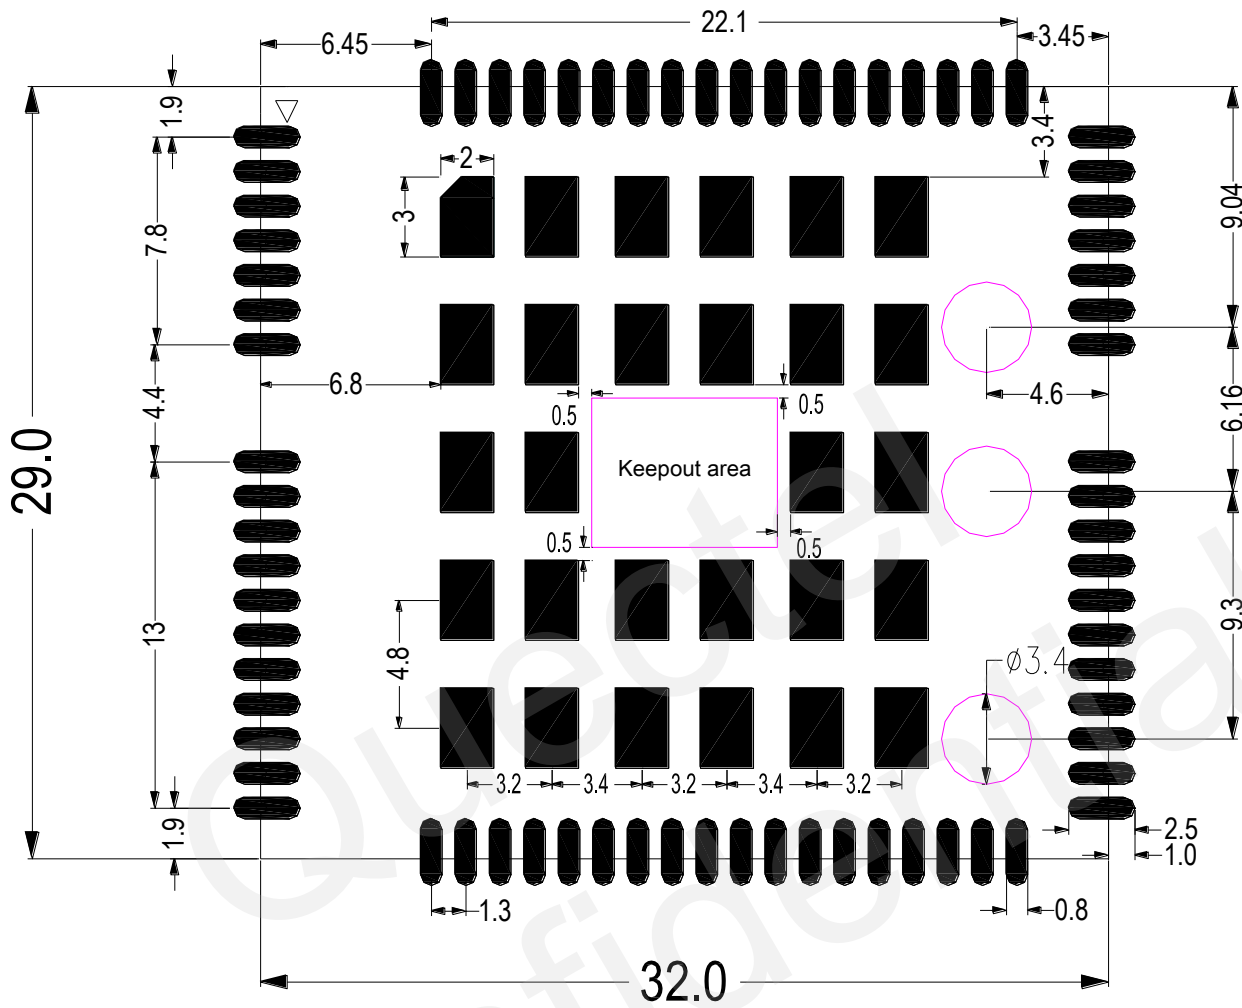

Figure 41: Recommended Footprint (Top View)
3. The red areas are recommended footprint shown in Figure 41.